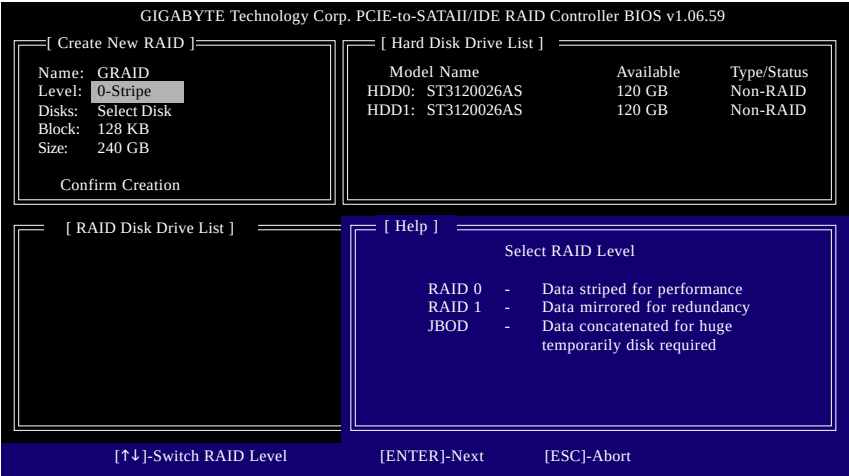

Figure 5
The Create New RAID block displays all the items that need to be set for creating an array (Figure 5).
2. Select RAID Mode: Under the Level item, use up or down arrow key to select RAID 0 (Stripe), RAID 1 (Mirror), or JBOD (Figure 5). Then press <Enter> to move onto the next step.